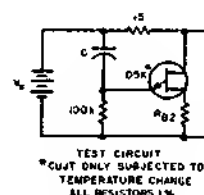

FIGURE 1
Relaxation Oscillator Frequency Shift from 25°C Value (See Figure 1,
4. The Base-One Peak Pulse Voltage is measured in the circuit shown in Figure 1. This specification is used to insure a minimum pulse amplitude for applications in SCR firing circuits and other types of firing circuits.